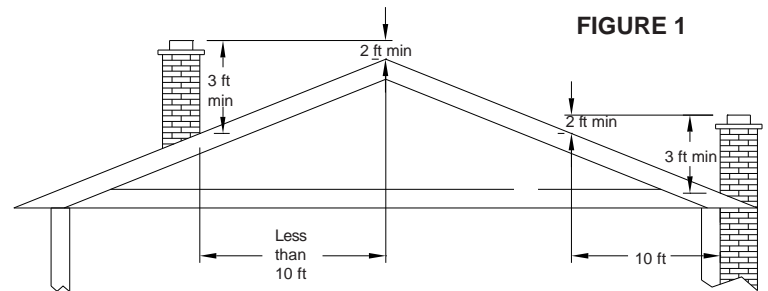

FIGURE 1
- Authorities require that the masonry chimney extend not less than 3 feet above the highest point where it passes through the roof of a building and not less than 2 feet above any portion of the building within ten feet (see FIGURE 1).